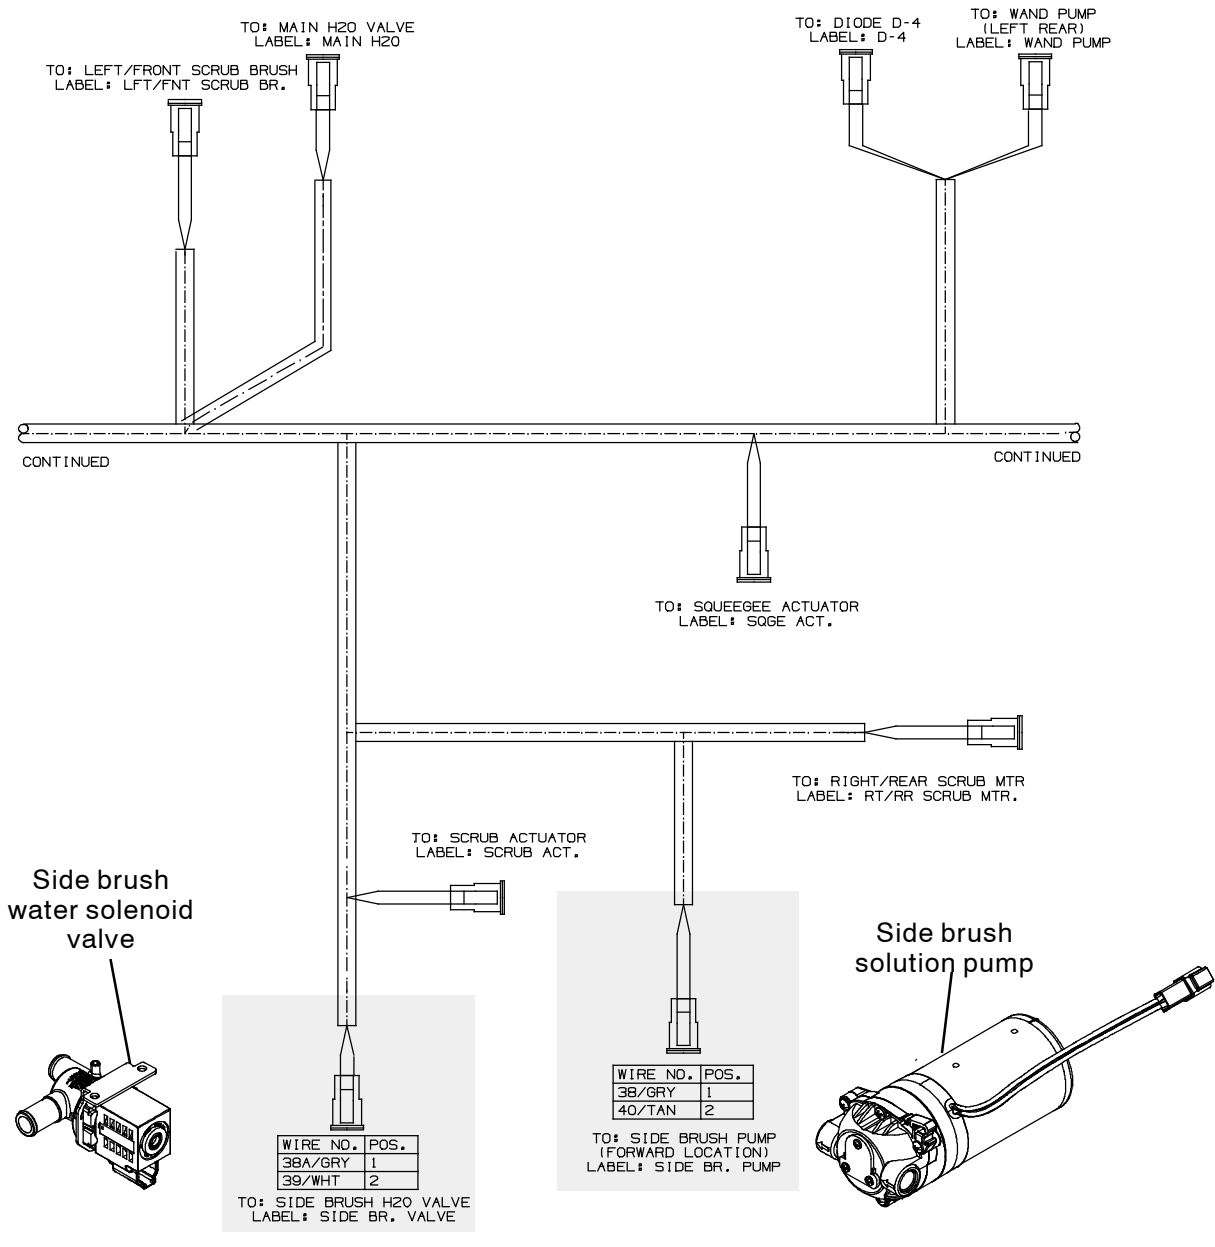

FIG. 26
52. Connect the side brush harness to the side brush motor and side brush actuator. (Fig. 26)
53. Connect the main wire harness to the e side brush motor and side brush actuator. (Fig. 26)